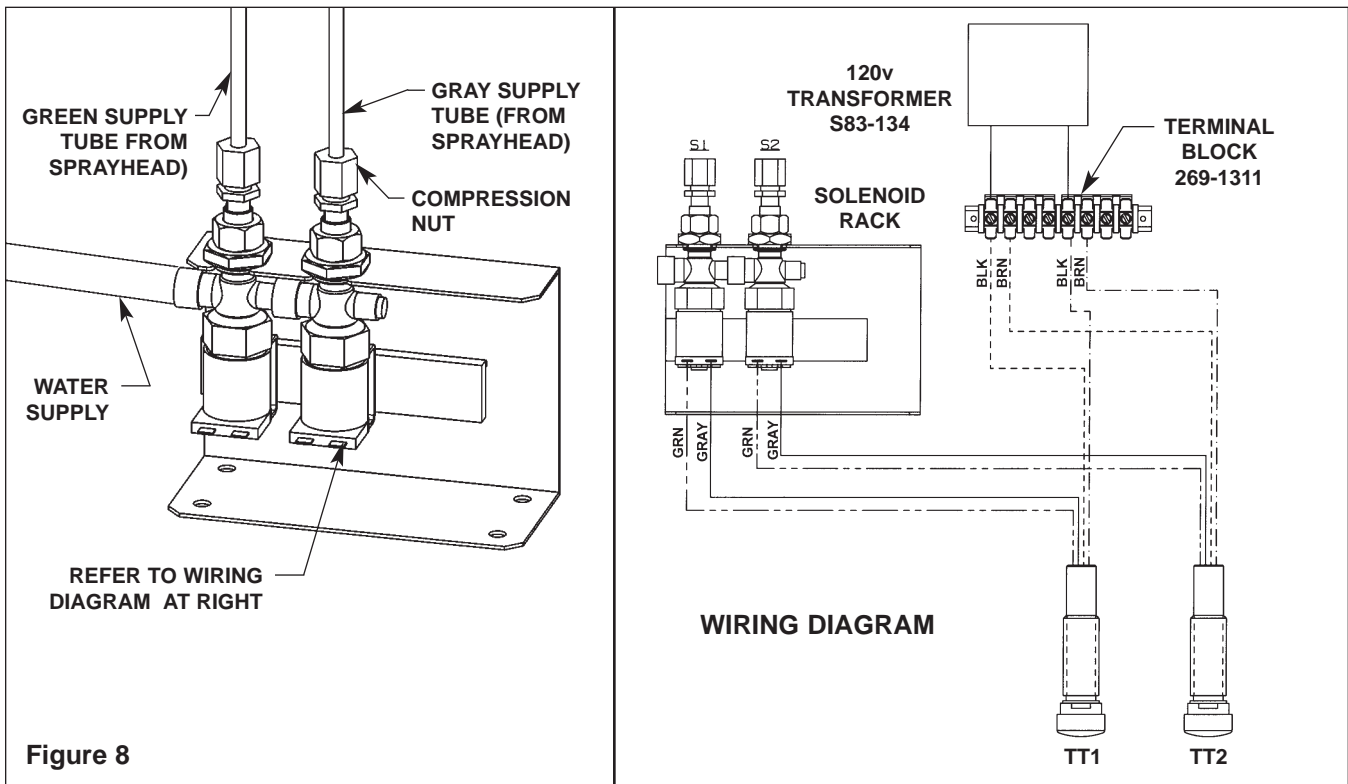

Figure 8
1. Insert the two sprayhead supply tubes into the two solenoid tube connectors by loosening the compression nut and firmly pushing the tubing into the tube connector until the tubes are fully seated, then re-tighten the compression nut (hand-tight and then two full turns with a wrench) (see Figure 8).